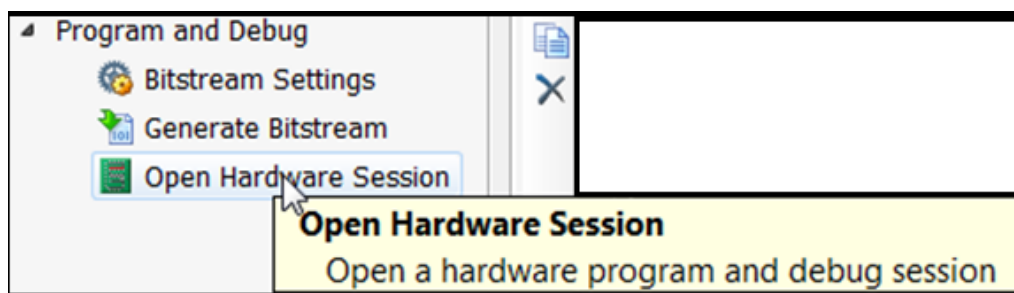

Figure 62: Open Hardware Session
1. Go back to the Vivado IDE session and select **Vivado Flow Navigator > Program and Debug > Open Hardware Session** (Figure 62).